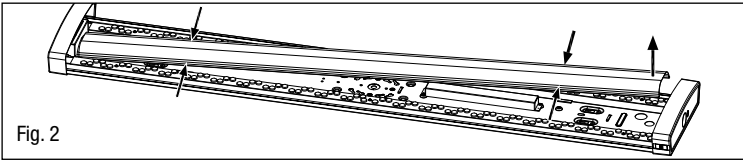

Fig. 2
2. Remove the wire way cover by pressing on each side of the wire way to release from the housing. (Fig. 2)